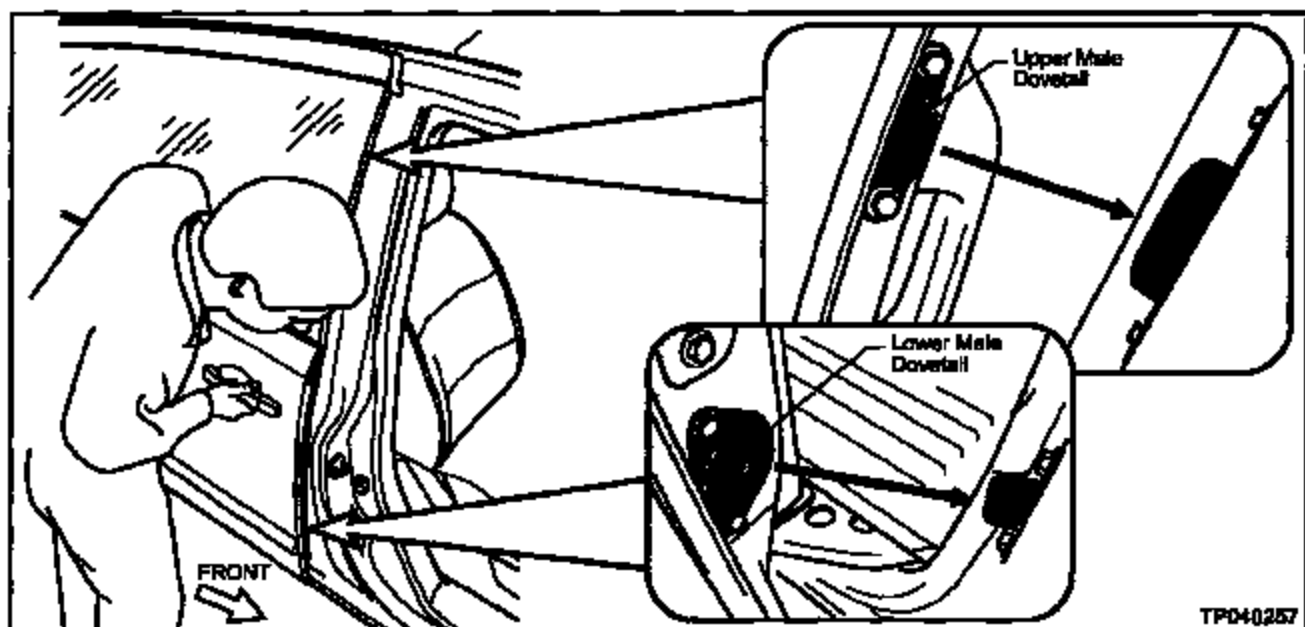

Figure J27
37. Check the alignment of the upper and lower Dovetails (see Figure J27).